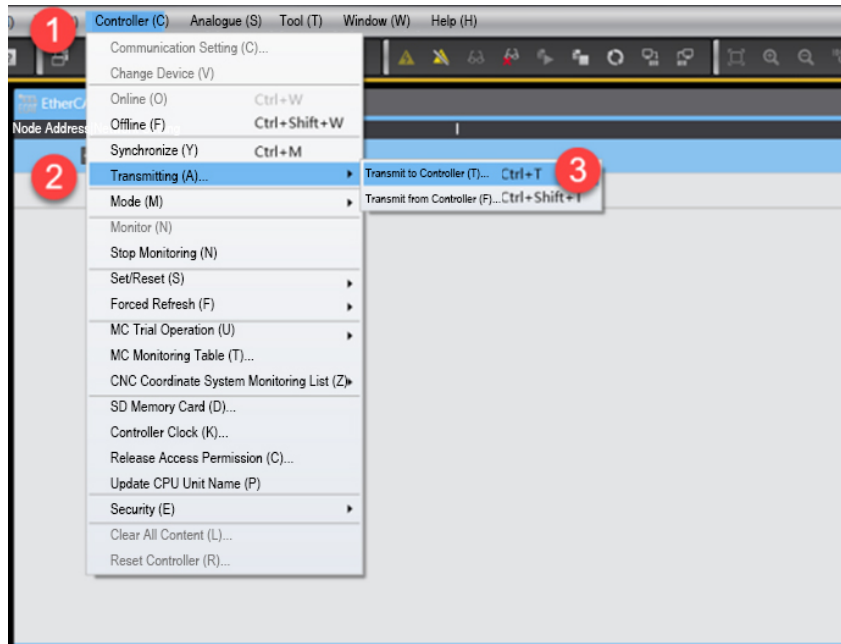

Fig.5-1-21 Program Download
The program will be downloaded into the Control after restart of the device. Select “Controller”>“Transmission”>“Transmission to Controller (T)” as shown in Fig. 5-1-21.